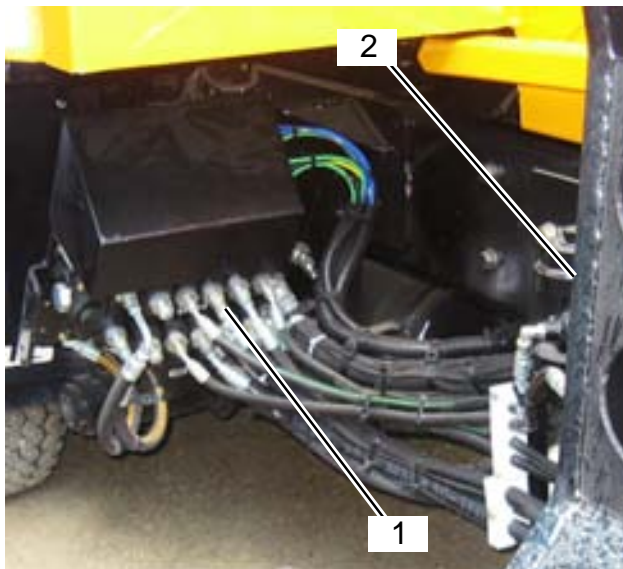

Figure 1
- On the McNeilus AutoReach, the VA20 control valve (**Figure 1, 1**) is located to the rear of the arm assembly (**Figure 1, 2**) mounted on the curb side of the Packer body.